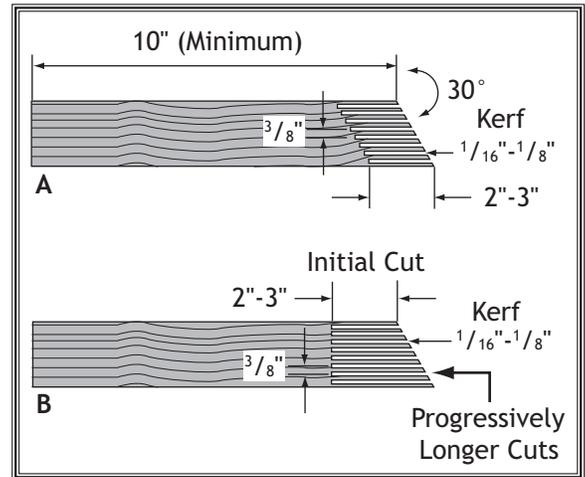

Figure 63. Patterns for making featherboards.
3. Make a series of end cuts with the grain $\frac{3}{8}$ "- $\frac{1}{4}$ " apart and 2"-3" long, as shown in Figure 63 (A). Alternatively, start cuts at 2"-3" deep, then make them progressively deeper, as shown in Figure 63 (B).